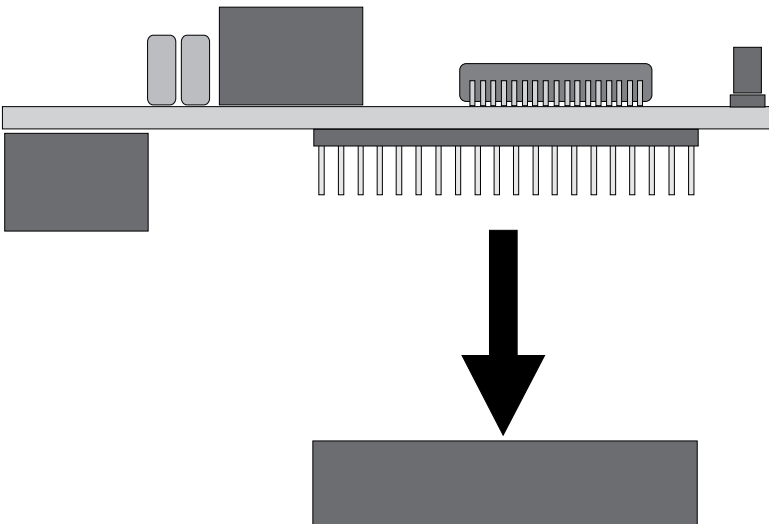

Figure 3-12 Installing the Faxmodem Module
5. Insert the module with the bottom edge level to the connector (Figure 3-12). **Never insert the module at an angle!**